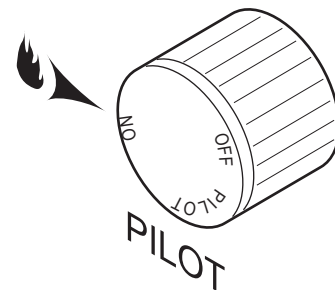

Figure 49 -
Depress and turn the knob counterclockwise ↶ to the “ON” position. *Figure 49*. It will take less than four (4) seconds for the burner to ignite.